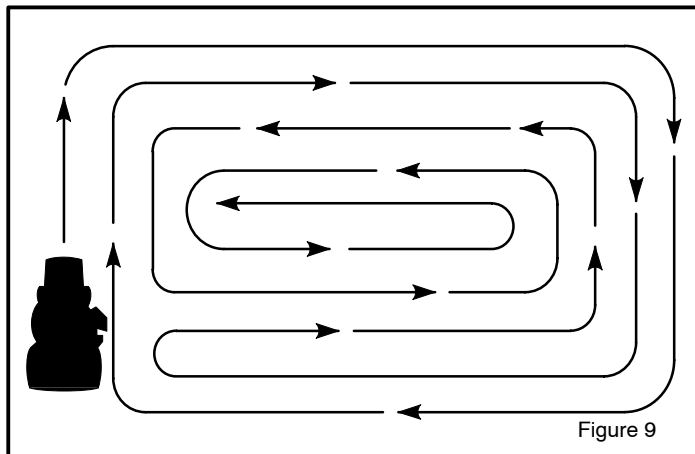

Figure 9
8. When you mow large areas, start by turning to the right so that the cut grass will discharge away from shrubs, fences, driveways, etc. After one or two rounds, mow in the opposite direction making left turns until finished (Figure 9).